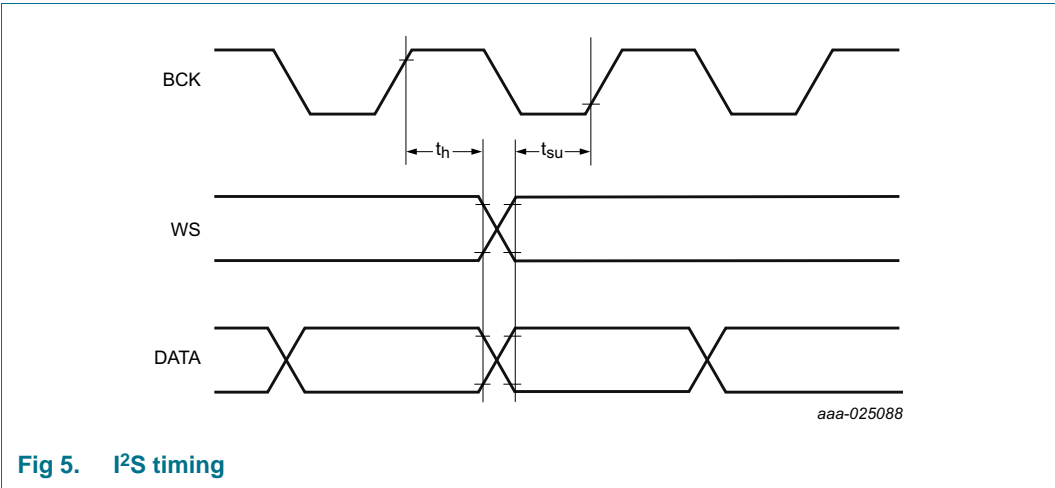

Fig 5. I²S timing
**Table 11. I²S bus interface characteristics; see Figure 5**